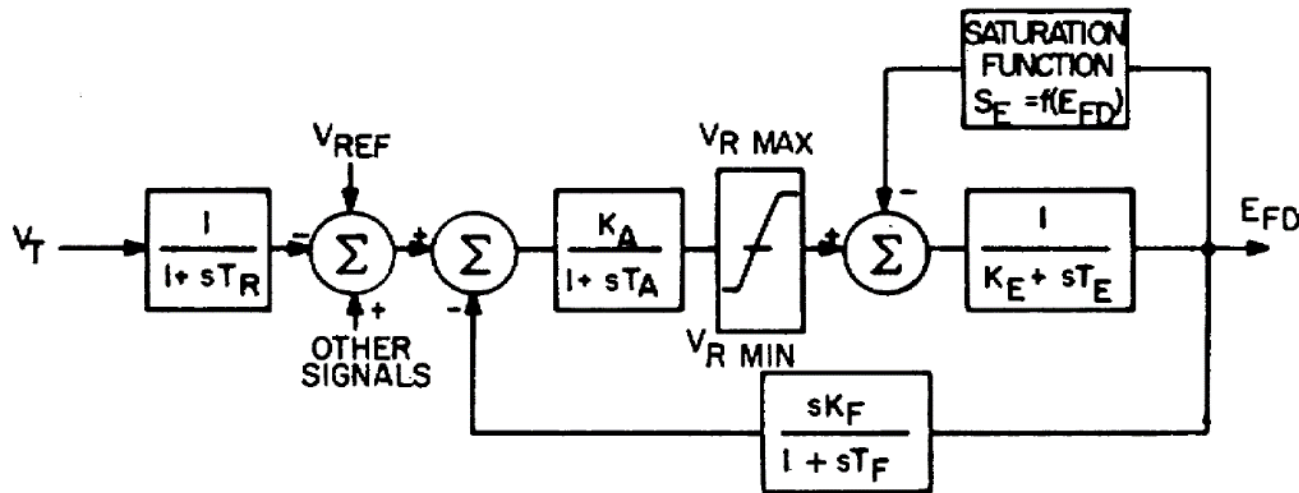

Fig. 1. Type 1 excitation system representation, continuously acting regulator and exciter.
- This model was standardized in a 1968 IEEE Committee Paper with Fig 1. from the paper shown below